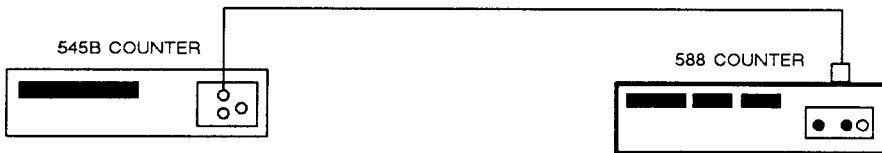

Figure 5-3. Time Base Calibration
1. Set up equipment as shown in Figure 5-3.